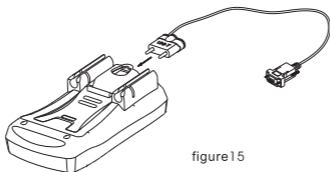

figure 15
B. Setting of RS232C Serial Ports (see figure 15)